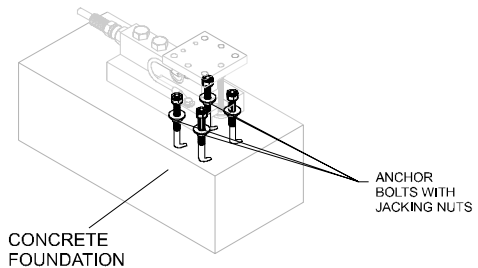

FIG. 9: INSTALLING THE FOUR ANCHOR BOLTS FOR THE BASE PLATE
- Step 9. Make sure to leave room to install the jacking nuts and washers. You are going to make the level adjustments with the jacking nuts. (See Fig. 9)
- Step 11. Install four (4) flat washers on each anchor bolt above the jacking nuts. (See Fig. 9)
- Step 14. Install the base plate nuts. (See Fig. 9) Tighten them finger tight. You may need to adjust the jacking nuts later as you install the rest of the load point assemblies for the weighing system.